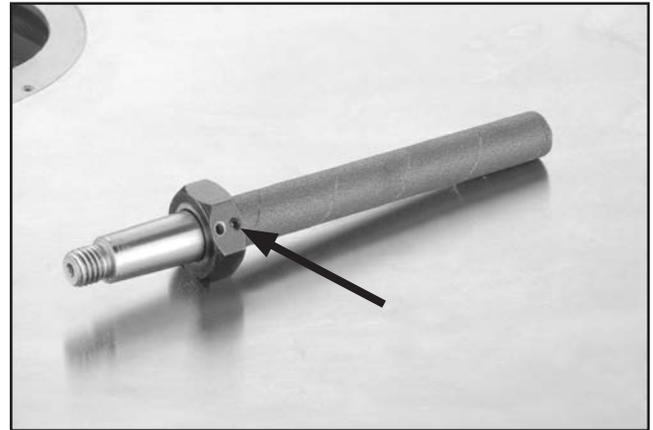

Figure 23. Retainer nut set screw.
2. Loosen the set screw located in the retainer nut (see **Figure 23**).